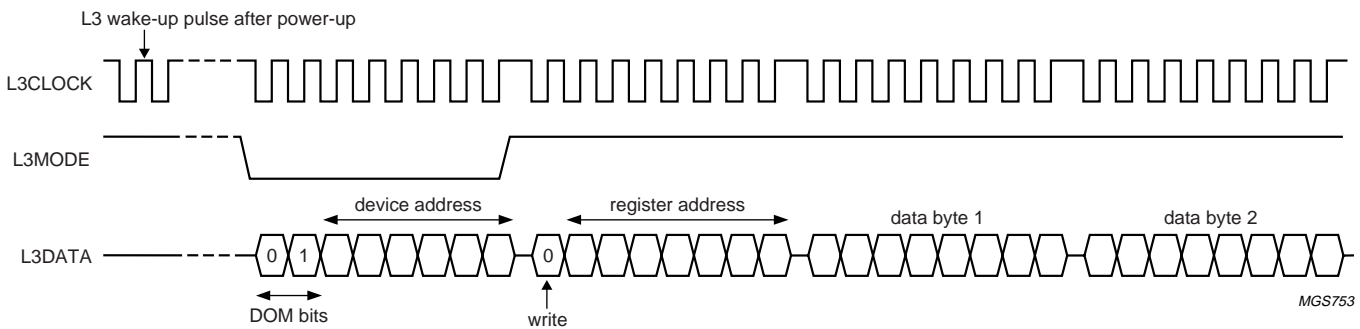

Fig.5 Data write mode (for L3 version 2).
The address mode is used to select a device for a subsequent data transfer. The address mode is characterized by L3MODE being LOW and a burst of 8 pulses on L3CLOCK, accompanied by eight bits (see Fig.5). The data transfer mode is characterized by L3MODE being HIGH and is used to transfer one or more bytes representing a register address, instruction or data.
Remark: when the device is powered up, at least one L3CLOCK pulse must be given to the L3 interface to wake up the interface before starting sending to the device, see Fig.5. This is only needed once after the device is powered up.
1. Addressing for write data: bit 0 is logic 0 indicating a write action to the destination register, followed by bits 1 to 7 indicating the register address (see Fig.5)
The data write mode is explained in the signal diagram of Fig.5. For writing data to a device, four bytes must be sent (see Table 6):